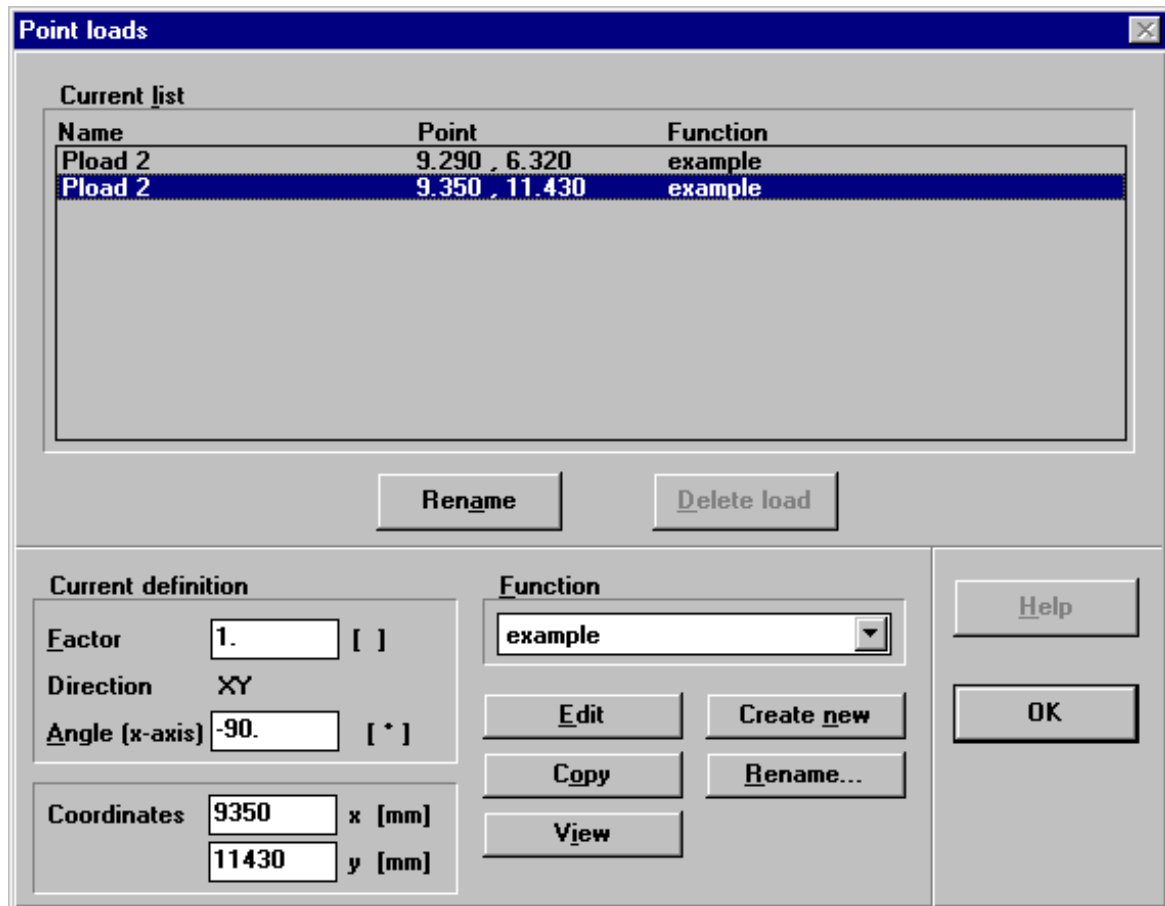

Figure 6.34
3. Click at the point where the load shall be placed. This brings up the Point load dialog box. The Point load dialog box is divided into four subareas: The current list, the current definition, the function and the coordinates. See figure 6.34.